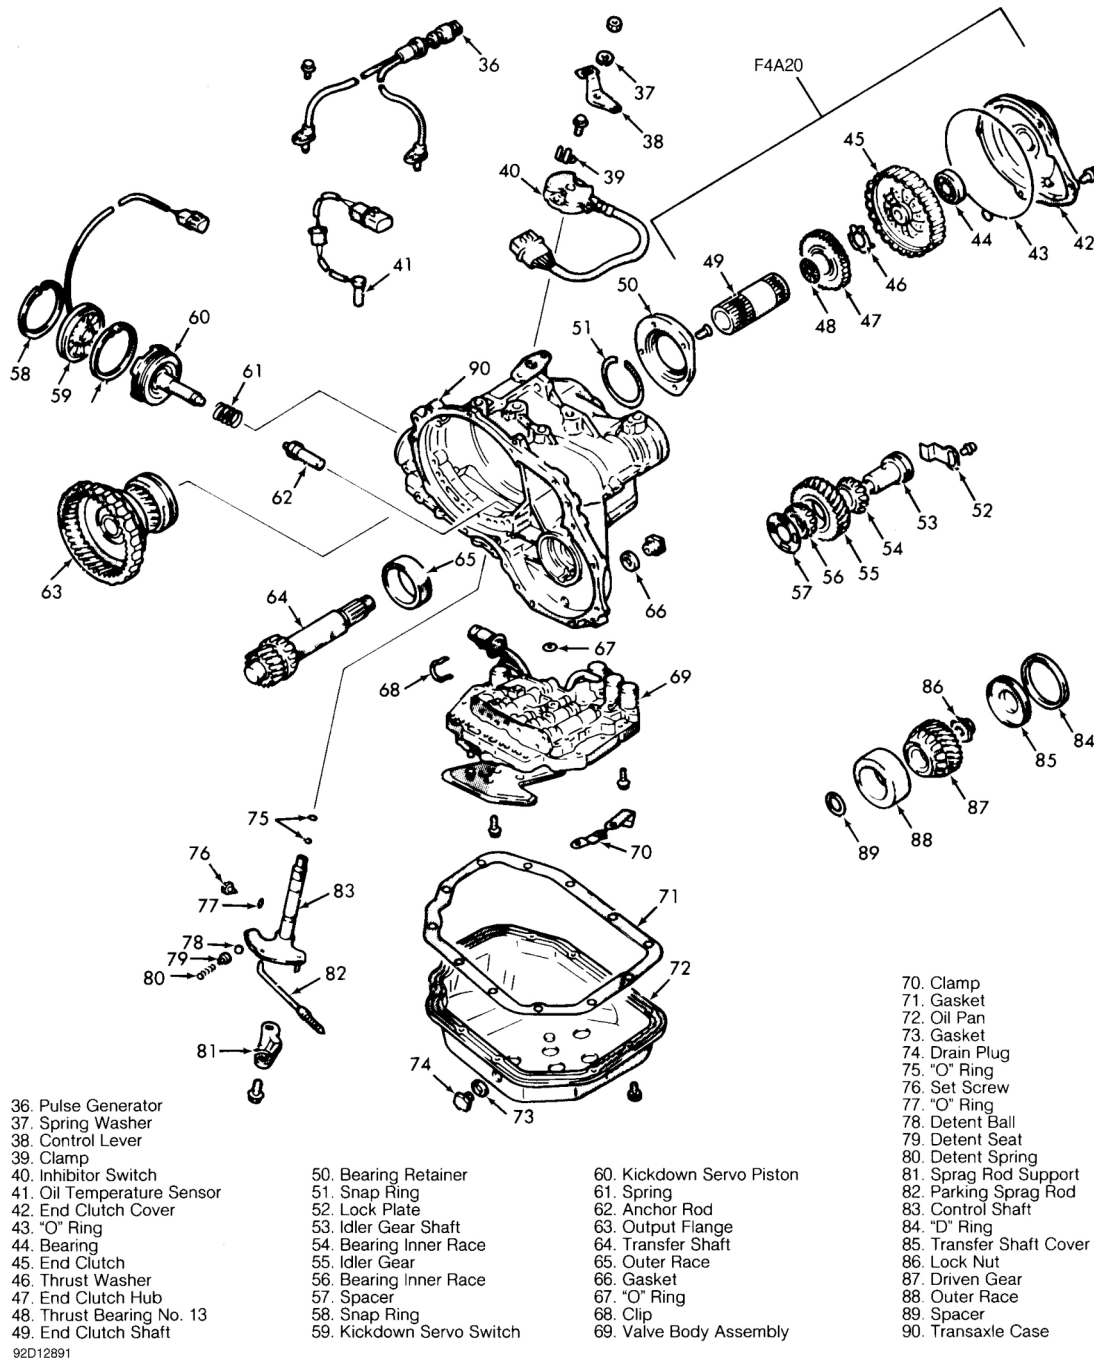

Fig. 23: Transaxle Assembly (F3A20 & F4A20 Series - 2 of 2)
5. Measure transfer shaft end play and select a spacer which provides 0-.0010" (0-.025 mm) end play. Install transfer shaft cover. Assemble the planetary carrier, output flange, transfer drive gear and bearing and install in transaxle case. See **Fig. 22** and **Fig. 23** . Install snap ring on output flange rear bearing.